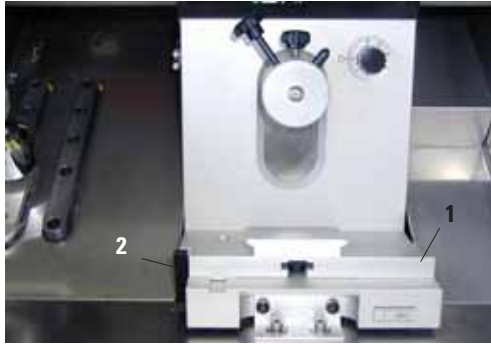

Fig. 1
1. Mount the knife holder base (1) as shown in Fig. 1.
2. Rotate lever (2) clockwise to clamp.